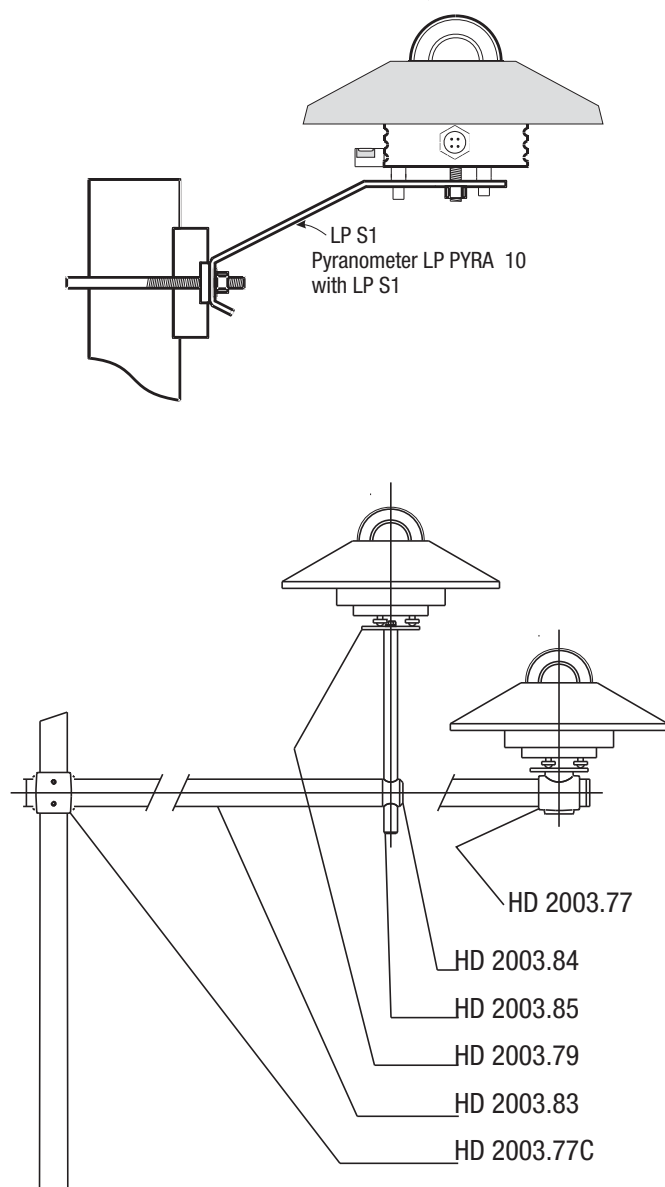

Fig.3
- In order to facilitate the installation of the pyranometer, Delta Ohm provides on request a range of accessories illustrated in Figure 3. The installer must take care that the height of the mast does not exceed the floor of the pyranometer, not to introduce measurement errors caused by reflections and shadows caused by the pole.